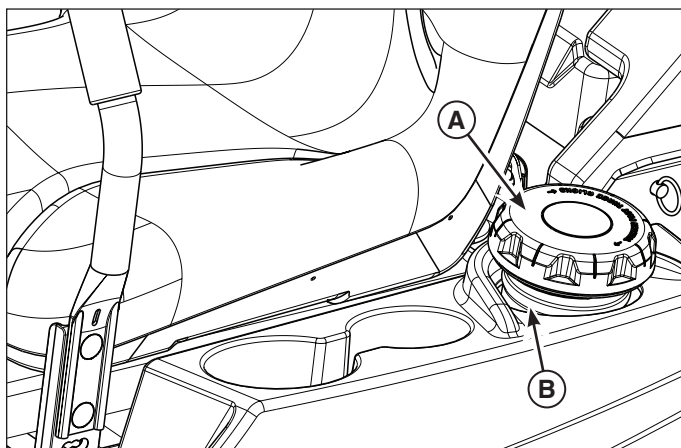

Figure 3
1. Clean the fuel cap area of dirt and debris. Remove the fuel cap (A, Figure 3).
2. Fill the fuel tank with fuel. To allow for expansion of the fuel, do not fill above the bottom of the fuel tank neck (B).